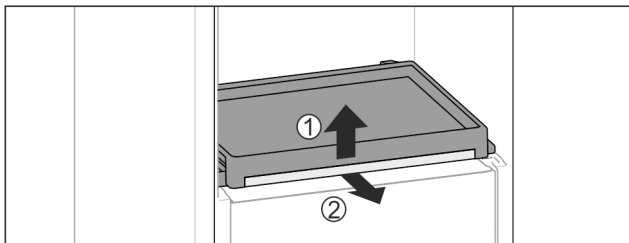

Fig. 60
- ▶ To remove the pull-out board with glass panel: Gently lift the glass panel at the front Fig. 60 (1) and pull out to the front Fig. 60 (2).